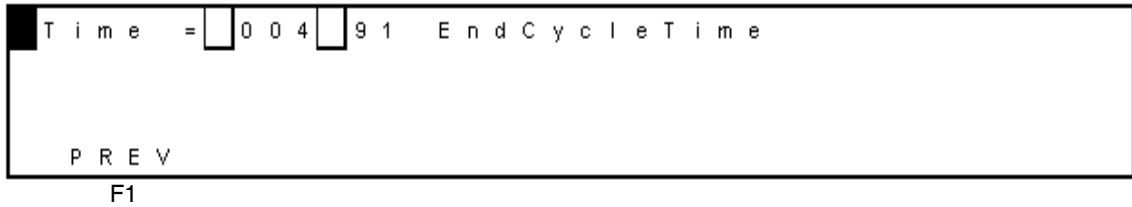

Figure 3-55 End Cycle Time Screen
- a. Select **F5 ENDCYCLE**. The End Cycle Time screen appears (Figure 3-55).